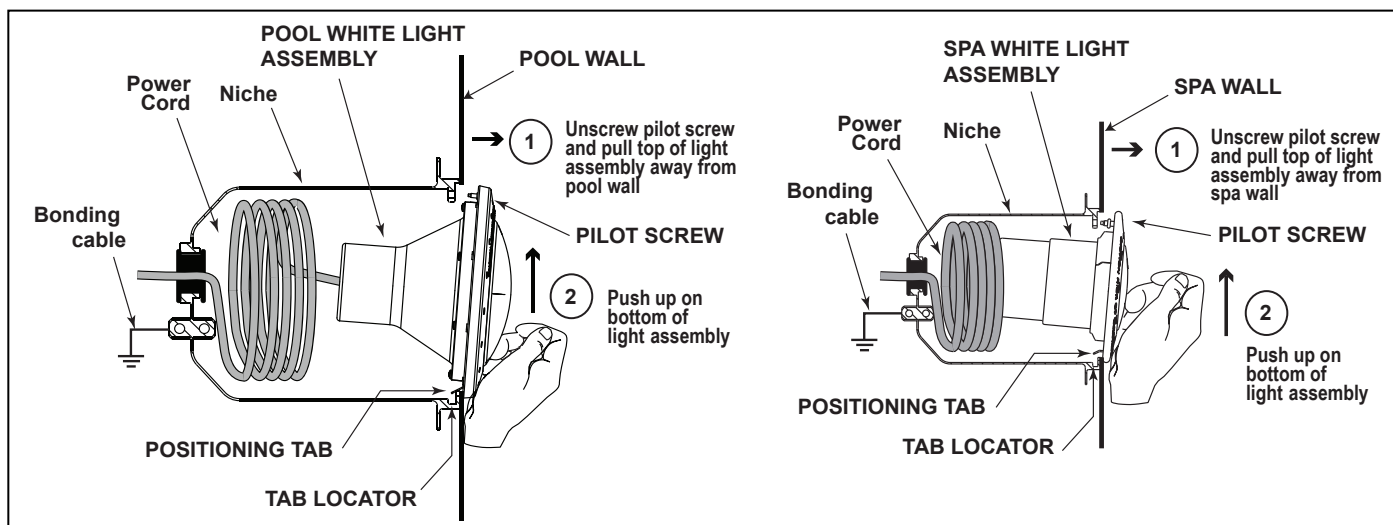

Figure 1. Removing the Pool and Spa White Light Assembly for Lamp Replacement
| Figure 1. Removing the Pool and Spa White Light Assembly for Lamp Replacement.....5 | Table 1. Lamp Specifications5 |
- To remove the light assembly, unscrew the special pilot screw at the top of the face ring, remove light assembly from niche and gently place assembly on the deck. It is not necessary to drain down the pool or spa. See Figure 1.